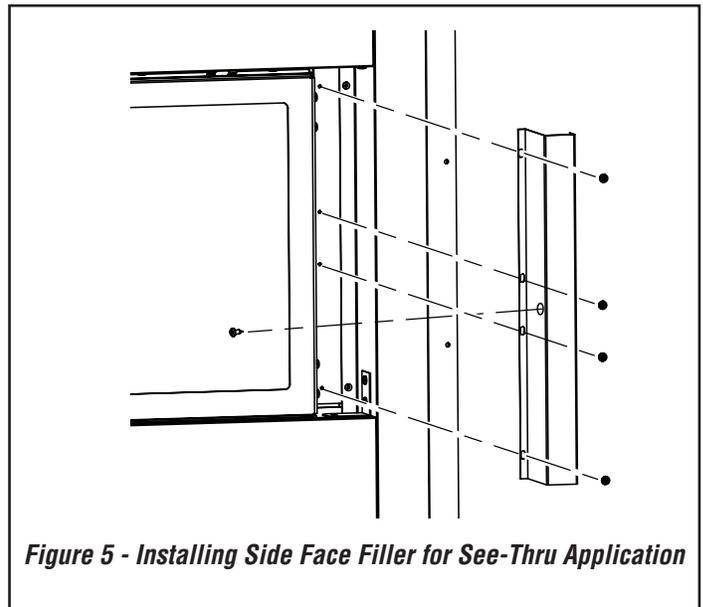

Figure 5 - Installing Side Face Filler for See-Thru Application
7. Install side face filler into the firebox side using five screws #8 (supplied) on both the left and right side See **Figure 5**, page 3.